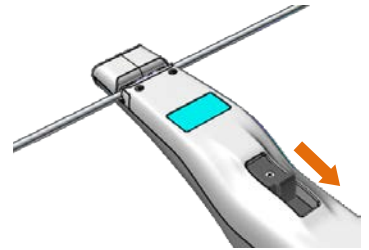

Figure 5
5. Insert the fiber to be tested between the adapter and the top of the clamp (refer to Figure 5). Ensure that the fiber is installed properly in the alignment groove and pull the thumb switch downward.